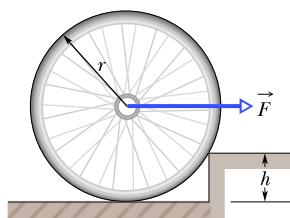

Figure 12.28 Problem 25.
**25 M SSM** In Fig. 12.28, what magnitude of (constant) force  $\vec{F}$  applied horizontally at the axle of the wheel is necessary to raise the wheel over a step obstacle of height  $h = 3.00 \text{ cm}$ ? The wheel's radius is  $r = 6.00 \text{ cm}$ , and its mass is  $m = 0.800 \text{ kg}$ .